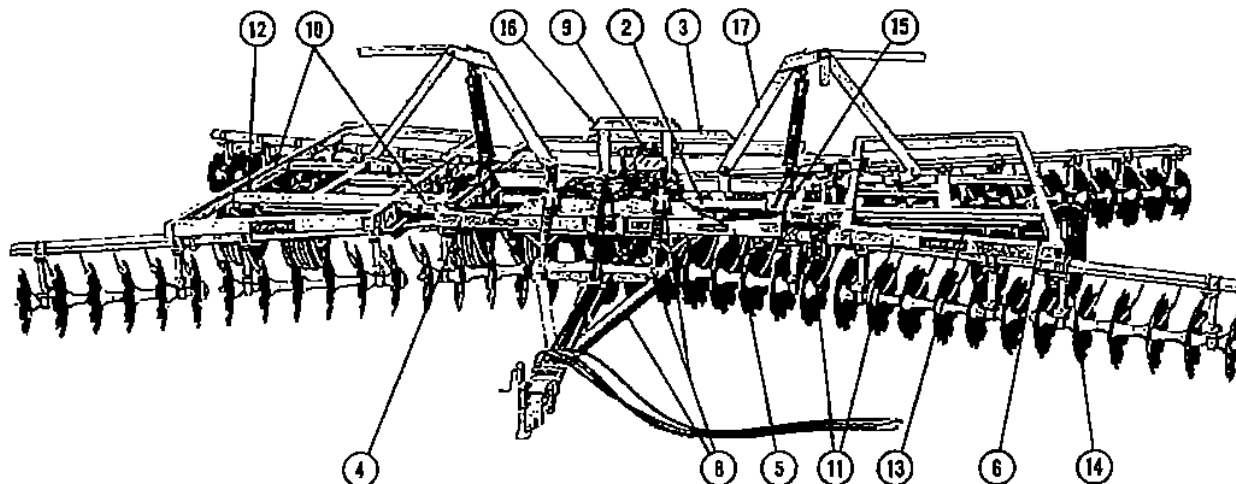

FIG. 14
16. Remove the bolts and bottom plates from the wing stop bundle, bundle number 201320. Place the wing stop over the center frame as shown in Fig. 14 and connect to the center tube of the right and left main frame. Secure the wing stop in place with bolts and plates previously removed.
17. Connect the cylinder arm of bundle number 201276 or 201479 to the main frame by removing the pin on center tube of main frame, aligning holes and reinserting the pin (see Fig. 14). Connect the radius arm and wing float rocker assembly to the right and left wings. Align the hole nearest the center of the rocker assembly, with the wing lift tube on wing frame. With the rocker in this position, the wing lift arm will be to the outside front.